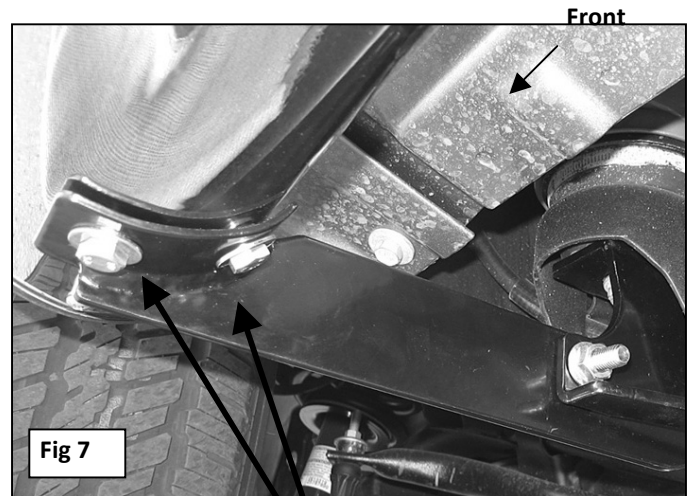

Fig 7
7. Carefully position the Driver Sidebar onto the Mounting Brackets. Attach the Sidebar to the Mounting Brackets with (6) 8mm x 25mm Hex Bolts, (6) 8mm Lock Washers and (6) 8mm Flat Washers, (**Figure 7**). Do not tighten hardware at this time.